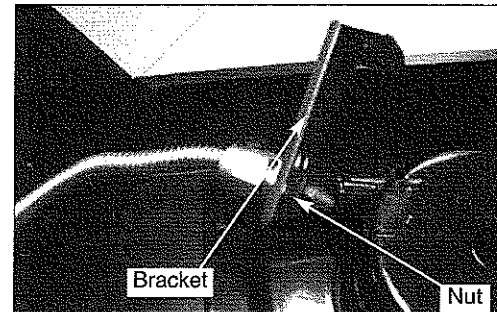

Fig 17
23. Unscrew the nut securing the bracket on the side burner orifice. (See Fig. 17)
25. Use the nut removed in step 23 to secure the bracket onto the side burner orifice. (See Fig. 17)